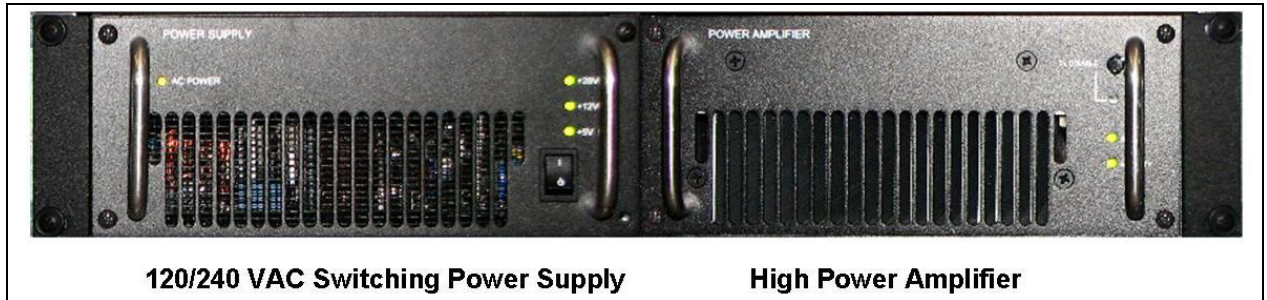

Figure 4-3: MASTR V HPA/PS Shelf Assembly (Shown with HPA and PS Installed)
The High Power Amplifier (HPA) (refer to Section 4.3.6) and the Power Supply (PS) (refer to Section 4.3.6.1) are installed in a 19” rack mountable, 2-slot metal shelf, model MA-555003 (refer to Figure 4-3). The HPA/PS shelf is a mechanical-only assembly with no electrical components.